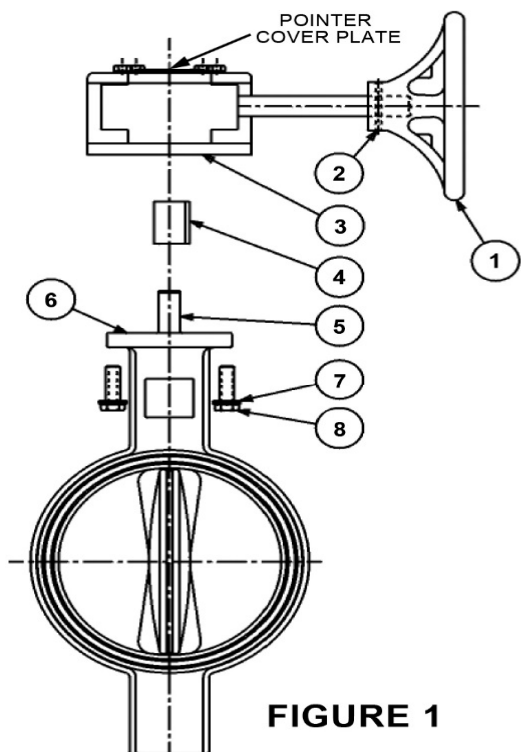
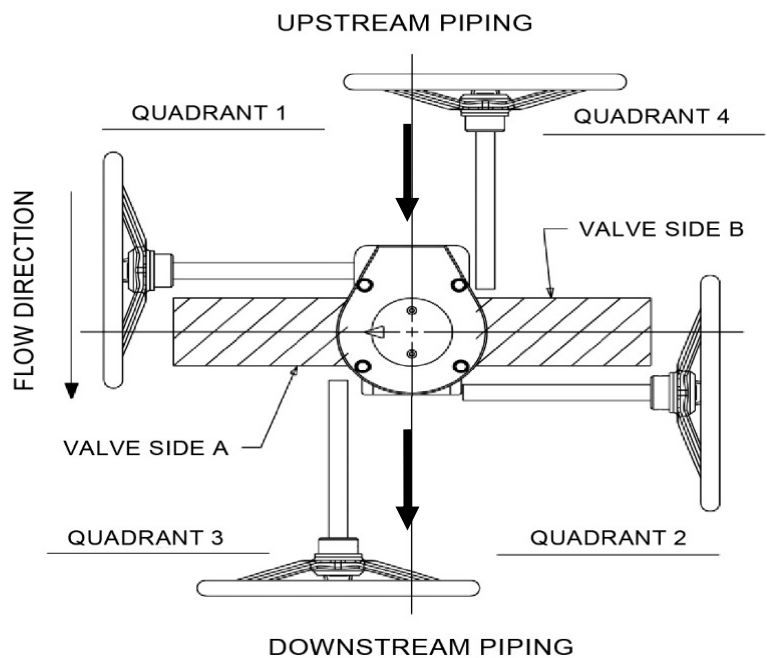

FIGURE 1
FIGURE 2
1. Install hand wheel (1) onto gear operator shaft and secure with pin (2). (If not already attached) See Figure 1.
2. Turn the hand wheel (1) clockwise until in full SHUT position.
4. Assure valve is in full SHUT position, turn valve stem (5) to close disc if necessary.
5. Assure mounting base of gear operator (3) and the valve top flange (6) are both clean and dry.
6. Determine desired hand wheel position in reference to the piping system and compare with Fig. 2. There are 2 mounting positions for the gear operator onto the valve and the valve can be mounted in either direction into the piping system. This will allow hand wheel to be positioned in any of the 4 quadrants as shown in Fig. 2. Note that all Fire Protection and 10" and 12" size commercial valves allow for hand wheel positioning in quadrants 1 and 2 only.
- Insert adapter bushing (4) into gear operator (3) bore aligning bushing key with desired keyway. Keyway selection will determine hand wheel orientation position. (Note that Fire Protection model adapter bushings differ from illustration and only have 1 keyway position).
- Align adapter bushing (4) bore with valve stem (5) and slide gear operator assembly onto valve stem (5) until seated with valve top flange.
- Align gear operator (3) bore with valve stem (5) and align with desired keyway. Keyway selection will determine hand wheel orientation position.
- Slide gear operator assembly onto the valve stem (5) until seated with valve top flange.
8. Tightly secure gear operator (3) to valve top flange (6) using supplied* fasteners (7 & 8).
- Connection of gear operator to valve stem varies depending on gear operator model, size and style. The adapter bushing and key may be different from Figure 1 illustration shown.